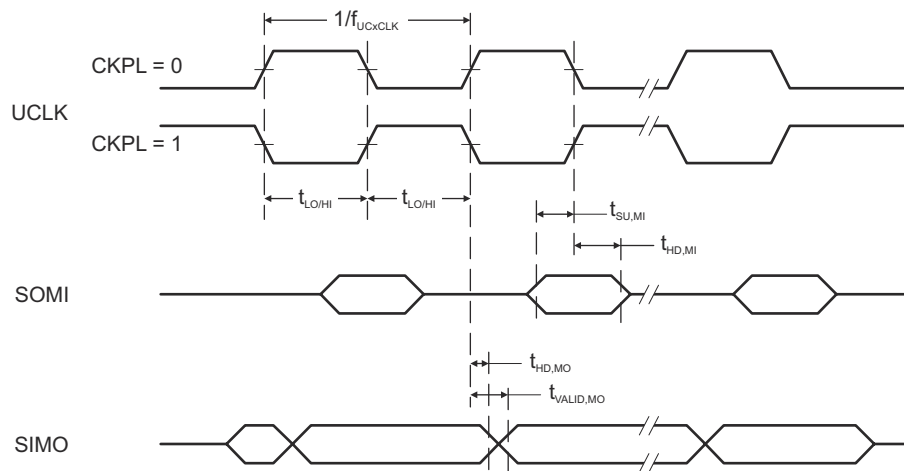
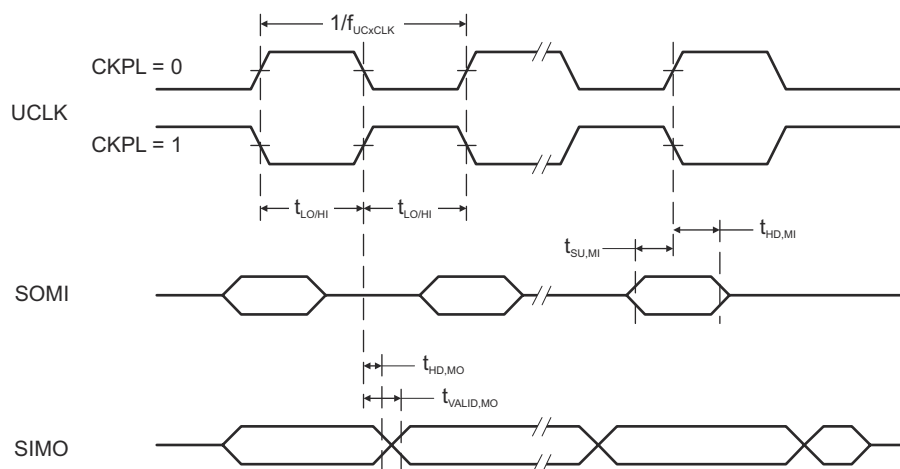

Figure 7-12. SPI Master Mode, CKPH = 0
Figure 7-13. SPI Master Mode, CKPH = 1
- (2) Specifies the time to drive the next valid data to the SIMO output after the output changing UCLK clock edge. See the timing diagrams in Figure 7-12 and Figure 7-13.
- (3) Specifies how long data on the SIMO output is valid after the output changing UCLK clock edge. Negative values indicate that the data on the SIMO output can become invalid before the output changing clock edge observed on UCLK. See the timing diagrams in Figure 7-12 and Figure 7-13.